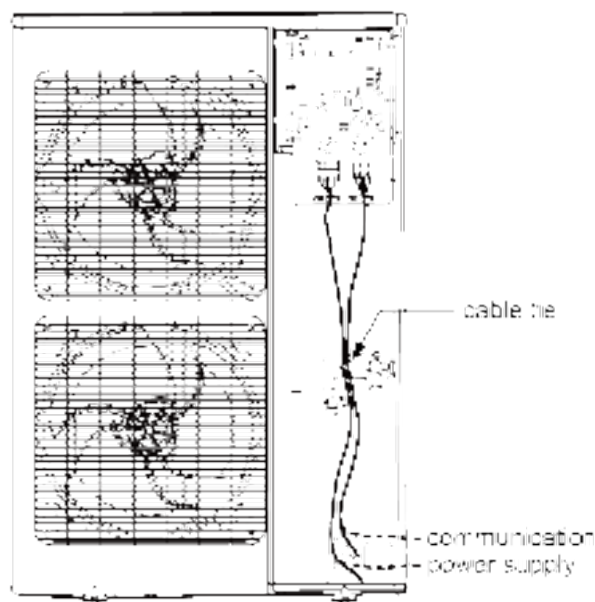
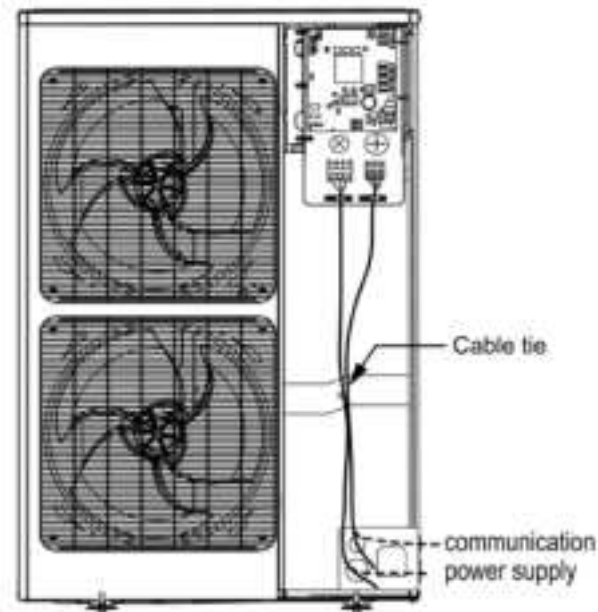

Fig.4.26
Fig.4.27
- (1) Please refer Fig.4.26 & Fig.4.27 for engineering wiring. If there is the hole for cable tie in wiring route, please fix the wire with cable tie. Connect the power cord and communication cable to the corresponding terminal board and grounding screw according to the wiring diagram.
- (2) Please be noted that engineering wiring cannot touch the pipe and appliance.
- (3) This figure is only applicable for engineering wiring reference of power supply and communication cable. If there are differences between the figure structure and actual unit, please refer to the actual unit.
- (4) For engineering wiring, please refer to the wiring diagram provided with the unit.